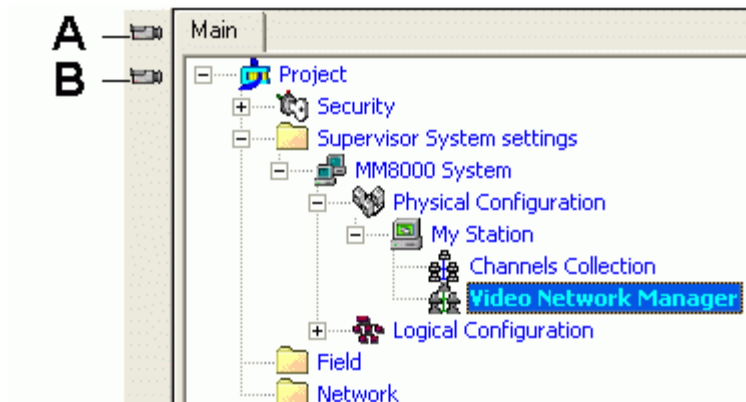

Fig 3 Video drivers
2. In the toolbar, click the icon corresponding to the driver you need (Fig 3):